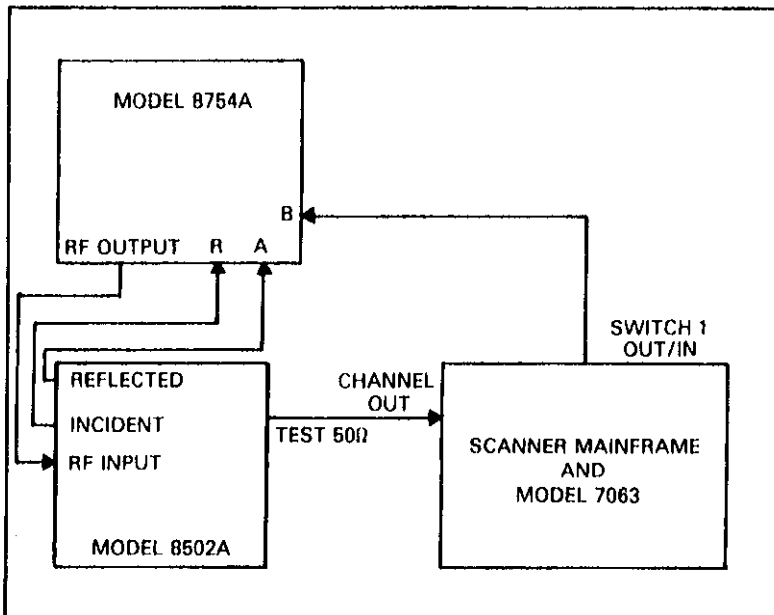

Figure 3-1. Insertion Loss Test Set Up
2. Set up the configuration shown in Figure 3-1.
2. Set up the configuration shown in Figure 3-1. Connect the 50 Ω test to CH1-1. Connect B on the Model 8754A to CH1-2.